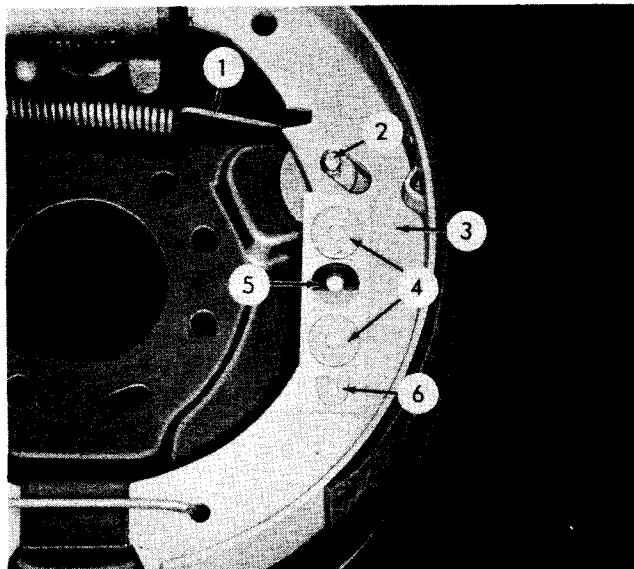

FIG. 1
Self-adjustment of the reverse shoe is accomplished by removing the shoe retracting spring, thus permitting the lining to conform and lie close to the drum surface at all times, regardless of lining thickness. Since the shoe-and-lining assembly is de-energized (tends to "unwrap") in the direction of forward drum rotation, it offers no appreciable drag. Friction washers at the eccentric pin and slotted hole (5, Fig. 1) in the shoe web prevent the lining from following slight irregularities in the drum. In reversing the car, the reverse shoe becomes slightly self-energized and there may be a light drag. This drag does not cause abnormal lining wear.
2. *There is no mechanical adjustment required for the floating reverse shoes.* The eccentric (2, Fig. 1) need not be touched for any adjustment purpose. The normal position is in full release. The eccentric pin acts as